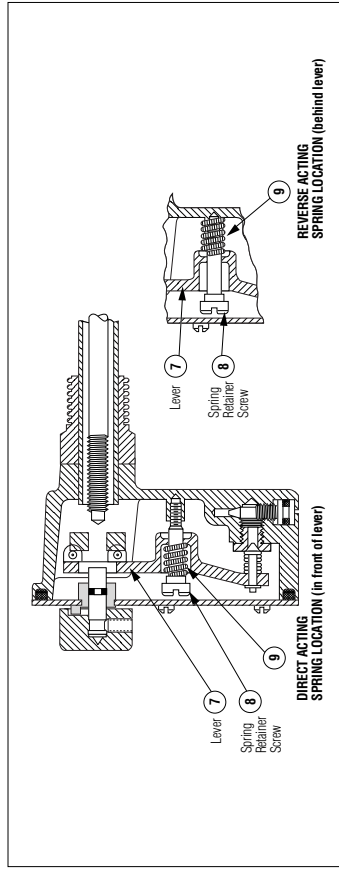

Figure 6.
(See Figures 6 and 7)
3. Install screws (3) and gaskets (2) on water-operated controller.
4. Install parts (8) and (9). (Note relationship for direct and reverse acting. See Figure 6.)
5. Back out adjustment screw (5) until collar (10) touches the pivots on the lever (7).
6. Install cover plate (2).
7. Install adjustment knob with set screw (3). The knob indicator (white line on side of knob) should be opposite the dial marking corresponding to the room temperature. Tighten the knob set screw very firmly.